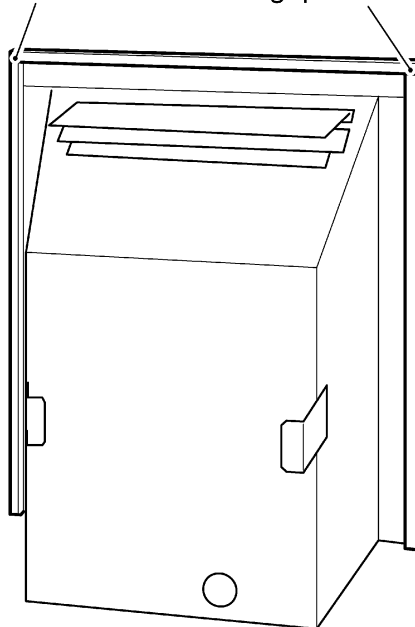

Figure 14. Fitting the foam seal
7. There is a length of self adhesive foam seal supplied with the fire. This will need to be fitted to the outer rear edges of the side and top flanges of the hotbox. Cut a 485mm length of foam seal. Be careful not to stretch the seal when measuring. Remove the protective backing from the foam seal and fit this to the rear of the top flange (See figure 14). Cut two
580mm lengths. Fit these to the rear outer edges of the side flanges. Ensure that there is no gap between the foam seals where they meet at the top flange (See figure 14)